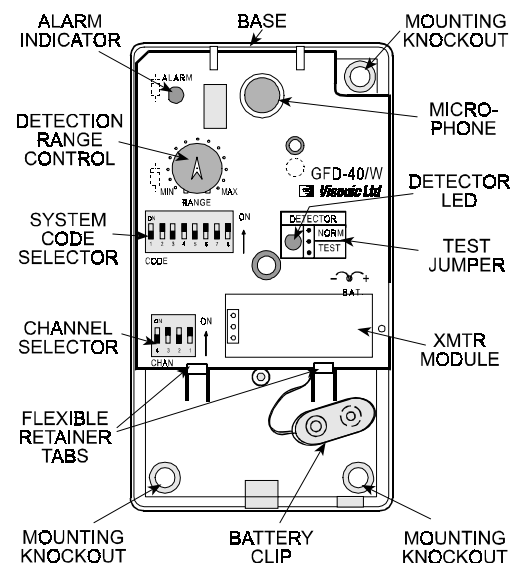

Figure 1. Inside View
The detector unit is suitable for surface mounting, using the mounting knockouts provided in the base (see Figure 1).
- Punch out two diagonally opposed mounting knockouts (see Figure 1 for knockout locations).
TEST jumper is placed in the TEST position (see Figure 1). Check individual sounds, such as telephones and door chimes, to find out whether they cause the detector LED to light. If they do, gradually rotate the range control counterclockwise until the LED no longer lights.